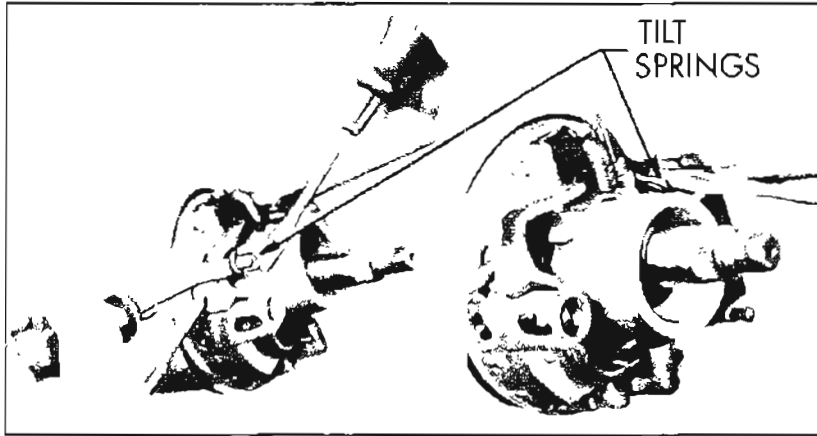

Figure 8-83—Removing Tilt Springs
10. Unhook upper ends of tilt springs by inserting a screwdriver in top coil of spring and prying upward, then disengage top loop of spring with another screwdriver. See Figure 8-83. View A shows removing spring on left side and View B shows removing spring on right side.